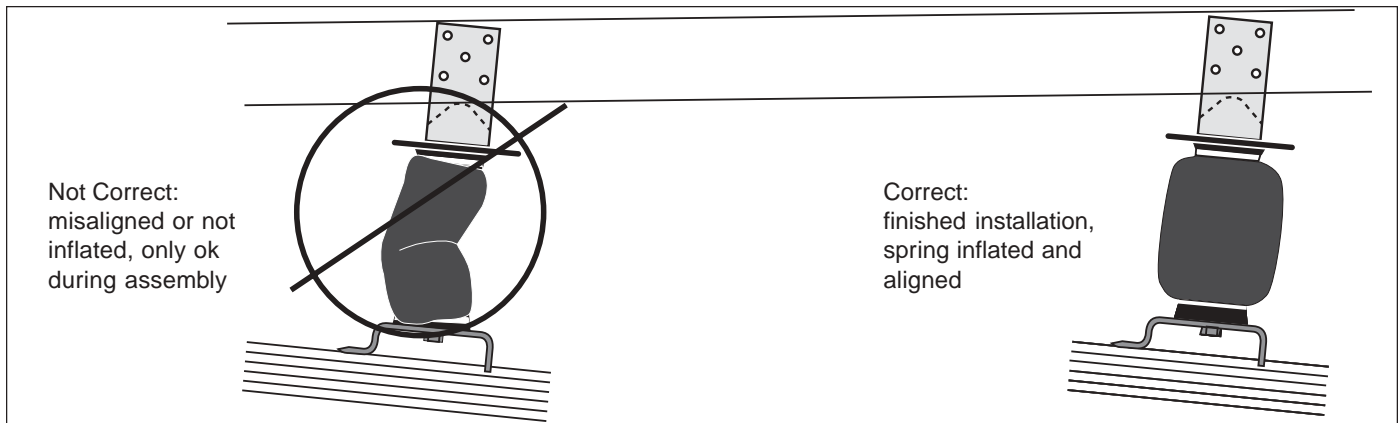

Figure 14
1. **VERY IMPORTANT:** With the bottom of the air spring still loose, inflate the sleeve to approximately 10 p.s.i. By using the slot for adjustment, center the sleeve so that it is in line with the upper and lower bracket and that there is a symmetrical cushion of air around the lower base of the sleeve to prevent side load wear (Figure 14). This can be accomplished by pressing all around the air spring and tapping it inboard or outboard for proper alignment. Sleeve diameter grows to 4.6" at maximum inflation, check to be sure there is clearance all around the sleeve when fully inflated.